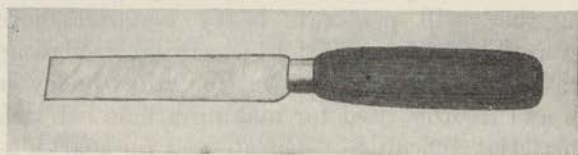

FIGURE 81.—Bench knife.
f. Shears and knife.—Heavy shears are used for most cutting, although a bench knife (fig. 81) is often more convenient for trimming